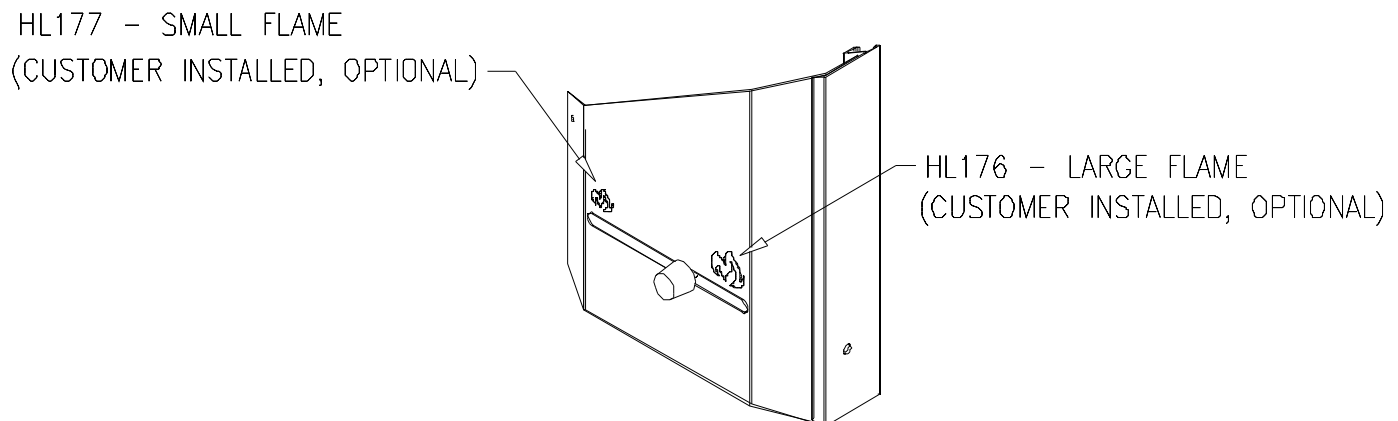

Figure 3.4
4. Open the draft control fully to the right (located on the right side of the faceplate, Figure 3.4)